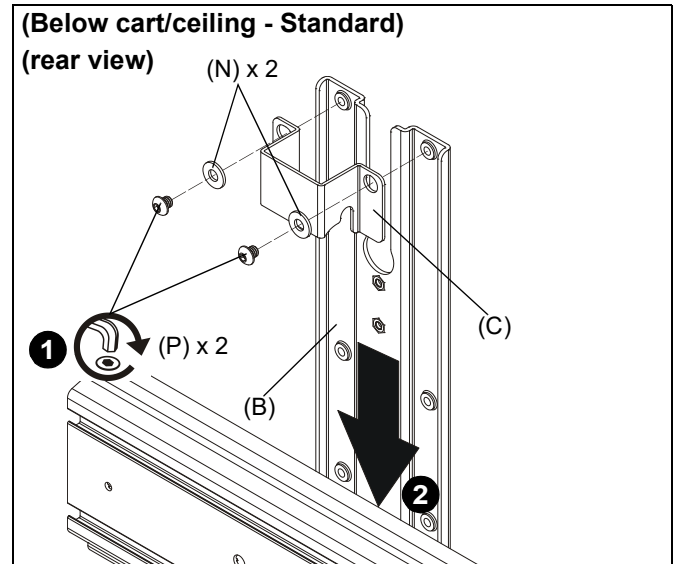

Figure 7
- Use two 1/4-20 x 1/4" button head cap screws (P) and two large washers (N) to secure shelf bracket (C) to main bracket (B). (See Figure 7)
- Slide main bracket (B) onto front of cart/ceiling mount head assembly until shelf bracket (C) rests on top of head assembly. (See Figure 7)